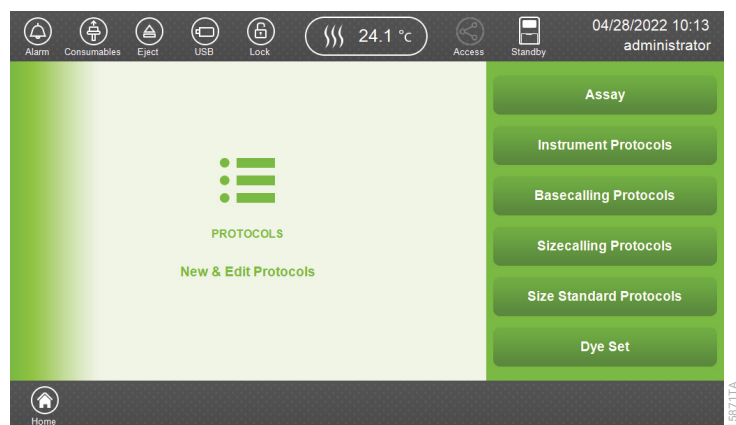
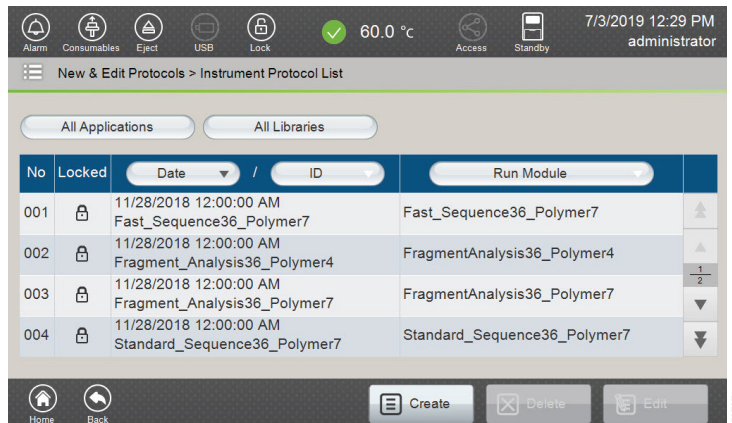
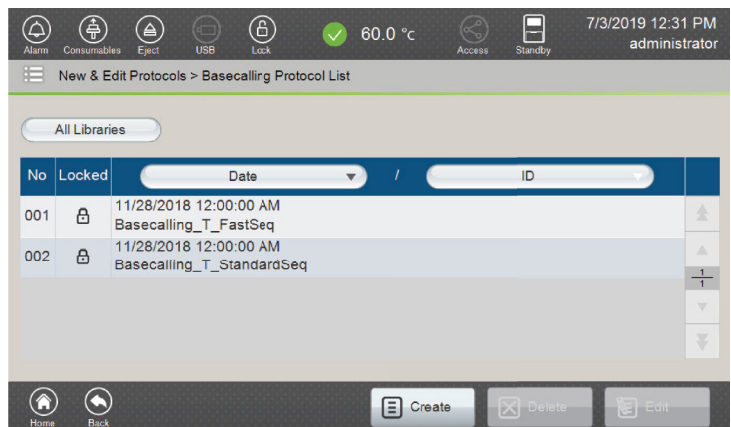
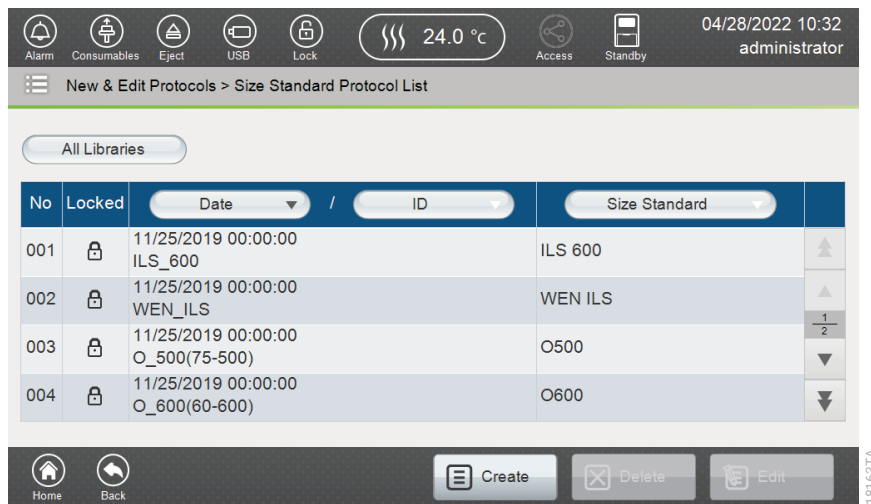

Figure 117. 'New & Edit Protocols' screen.
Figure 118. 'Instrument Protocol List' screen.
Figure 120. 'Basecalling Protocol List' screen.
Figure 135. 'Size Standard Protocol List' screen.
Select **New & Edit Protocols** on the 'Main Menu' screen (Figure 9) to access the 'New & Edit Protocols' screen (Figure 117). Instrument, Basecalling, Sizecalling and Size Standard protocols and Dye Sets should be defined for appropriate applications prior to creating a new assay.
1. Select **Instrument Protocols** in the 'New & Edit Protocols' screen (Figure 117). This will open the 'Instrument Protocol List' screen (Figure 118).
1. Select **Basecalling Protocols** in the 'New & Edit Protocols' screen (Figure 117). This opens the 'Basecalling Protocol List' screen (Figure 120).
- Select **Sizecalling Protocols** in the 'New & Edit Protocols' screen (Figure 117). This opens the 'Sizecalling Protocol List' screen (Figure 127).
1. Select **Size Standard Protocols** in the 'New & Edit Protocols' screen (Figure 117). This opens the 'Size Standard Protocol List' screen (Figure 135).